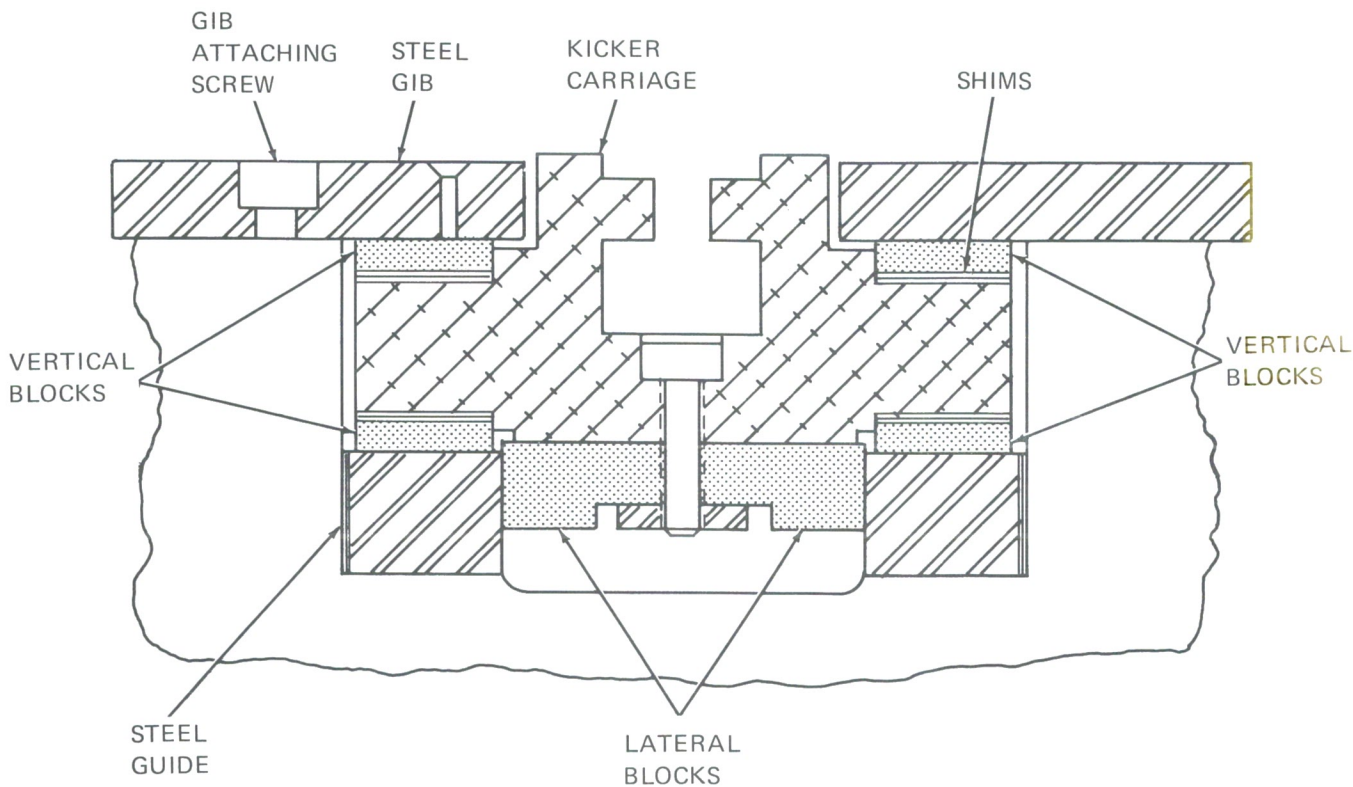

FIGURE 3-17. CHECKING KICKER CARRIAGE WEAR
The kicker carriages are guided laterally and vertically by micarta blocks sliding on steel gibs and guides (Figure 3-17). Wear and play will develop between the gibs and guides and blocks.
4. REPLACING KICKER CARRIAGE MICARTA BLOCKS (Figure 3-17)